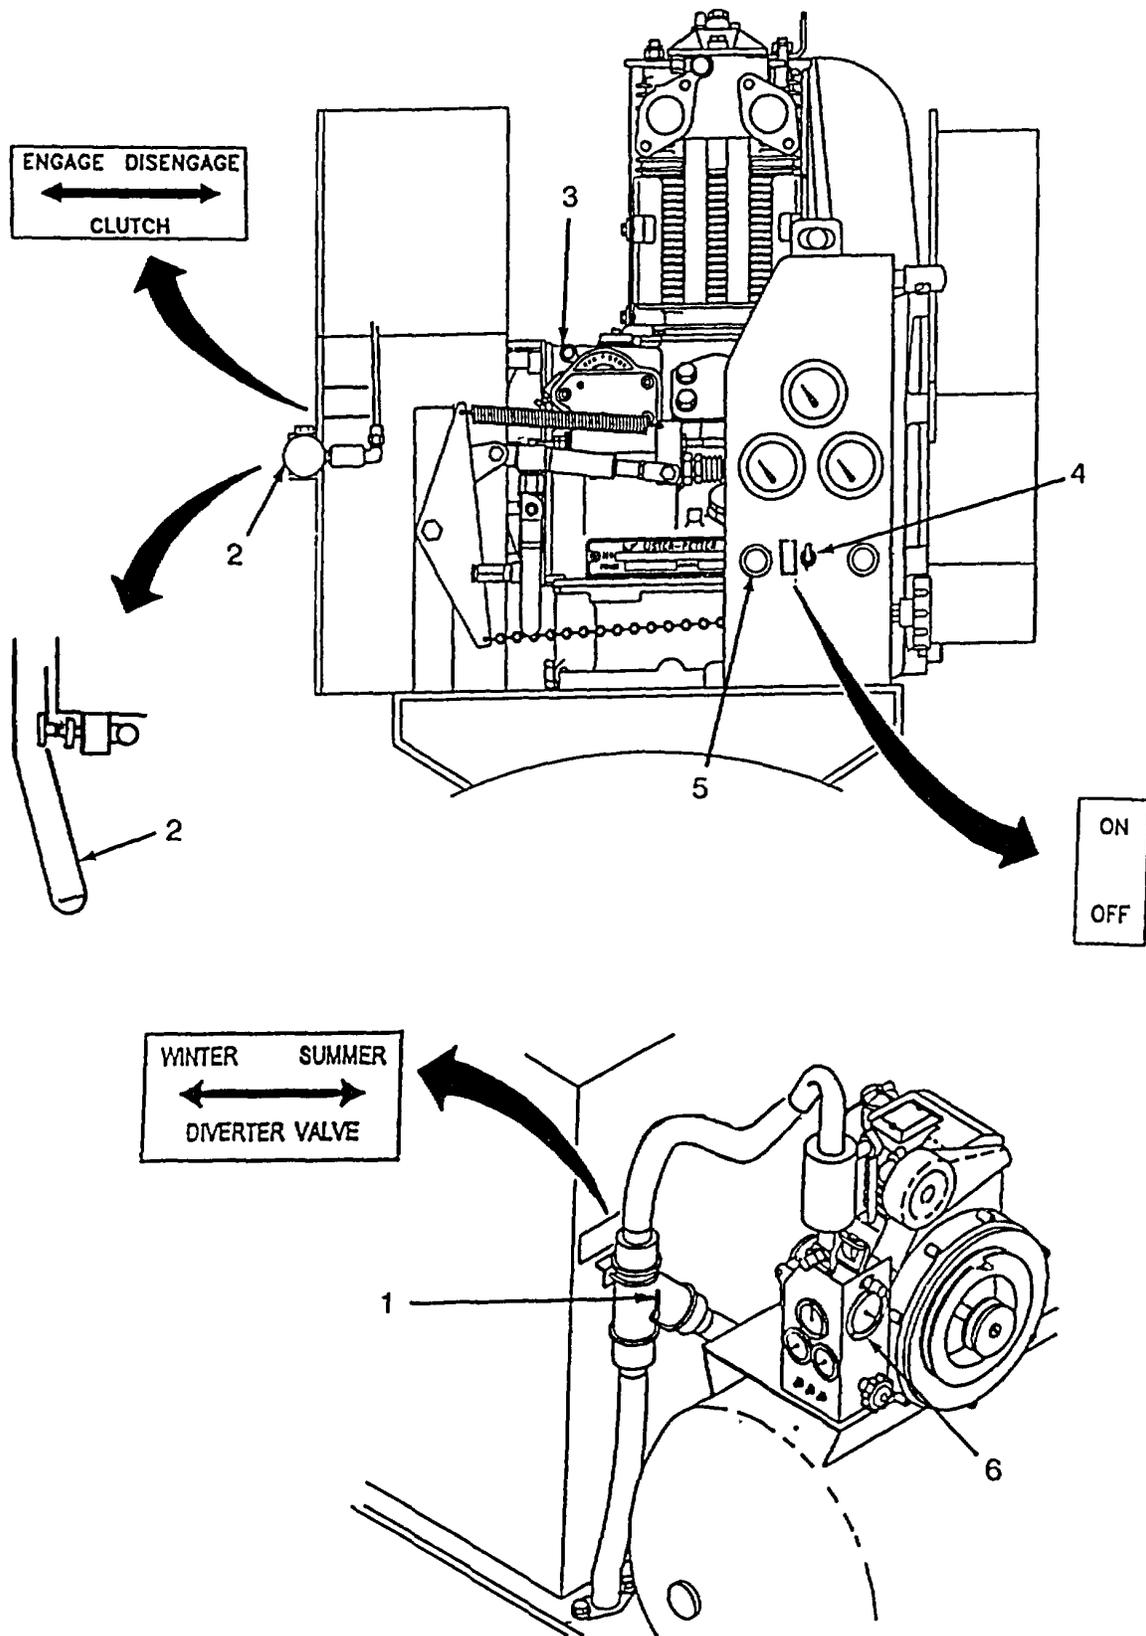

Figure 2-26. Starting and Stopping The Engine (Normal Weather)
**(1) NORMAL WEATHER (Refer to Figure 2-26).**
- (a) Flip engine exhaust diverter valve (1) to the right, "summer" position.
- (b) Or if clutch is engaged, disengage it by pushing handle (2) in.
- (c) Move the engine run/stop lever (3) on engine to "run".
- (d) Move the on/off toggle switch (4) on control panel to "on".
- (e) Push and hold engine start button (5) on control panel until engine starts, then release.
- b. ENGINE SHUT DOWN NORMAL (Refer to Figure 2-26).
- (1) Disengage clutch (2).
- (2) Move the on/off toggle switch (4) to "off"
- (3) Move the engine run/stop lever (3) on engine to "stop".